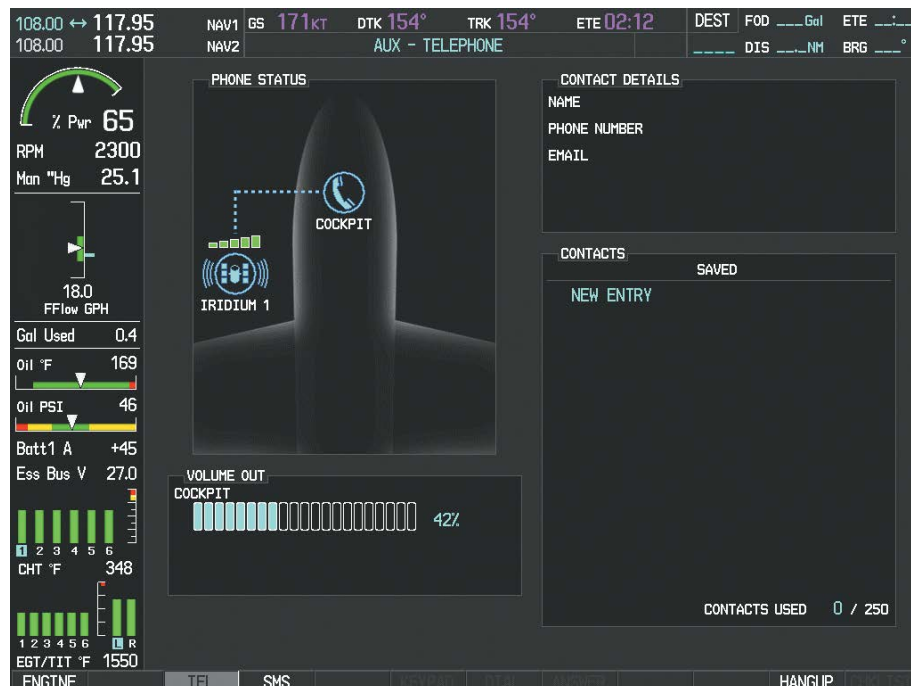

Figure 8-102 System is Making the Connection
- 5) Press the **ENT** Key. The system will begin calling the number, as in Figure 8-102.